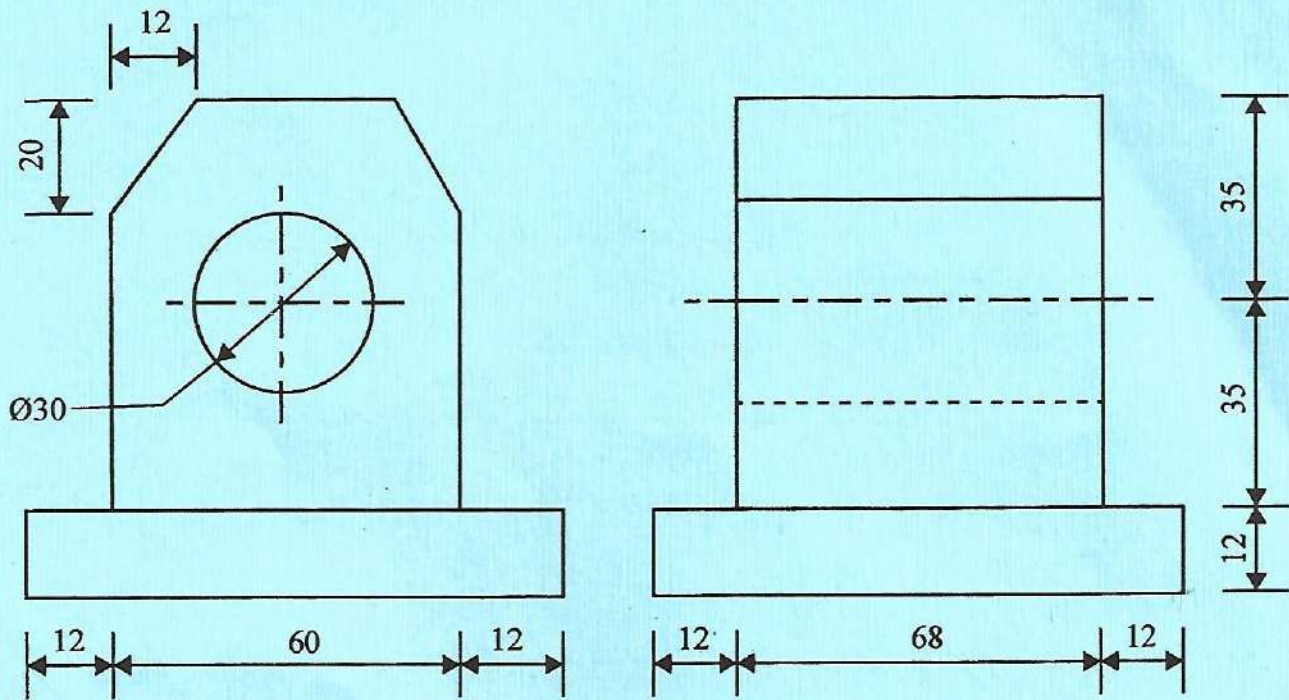

Fig. 3
8. Figure 3 shows orthographic views of a machined block drawn in third angle projection. Draw, full size, oblique view of the block. (20 marks)